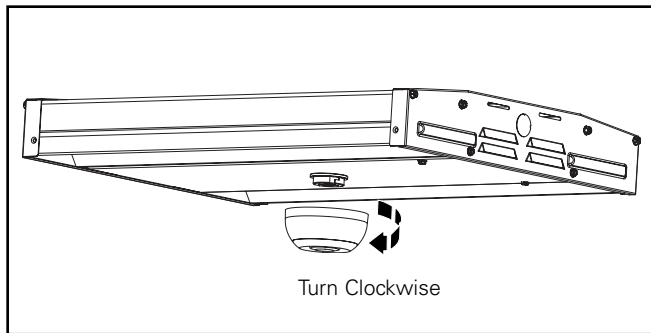

Figure 2.
2. Remove sensor from receptacle. (Figure 2.)